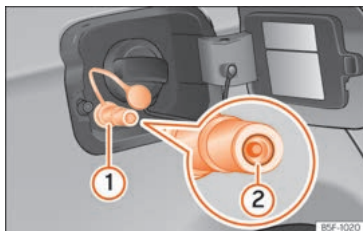

Fig. 305 Open tank lid: gas filler mouth (1), filler mouth retainer (2)
- Remove the plug from the gas filler mouth » » » Fig. 305 (1).